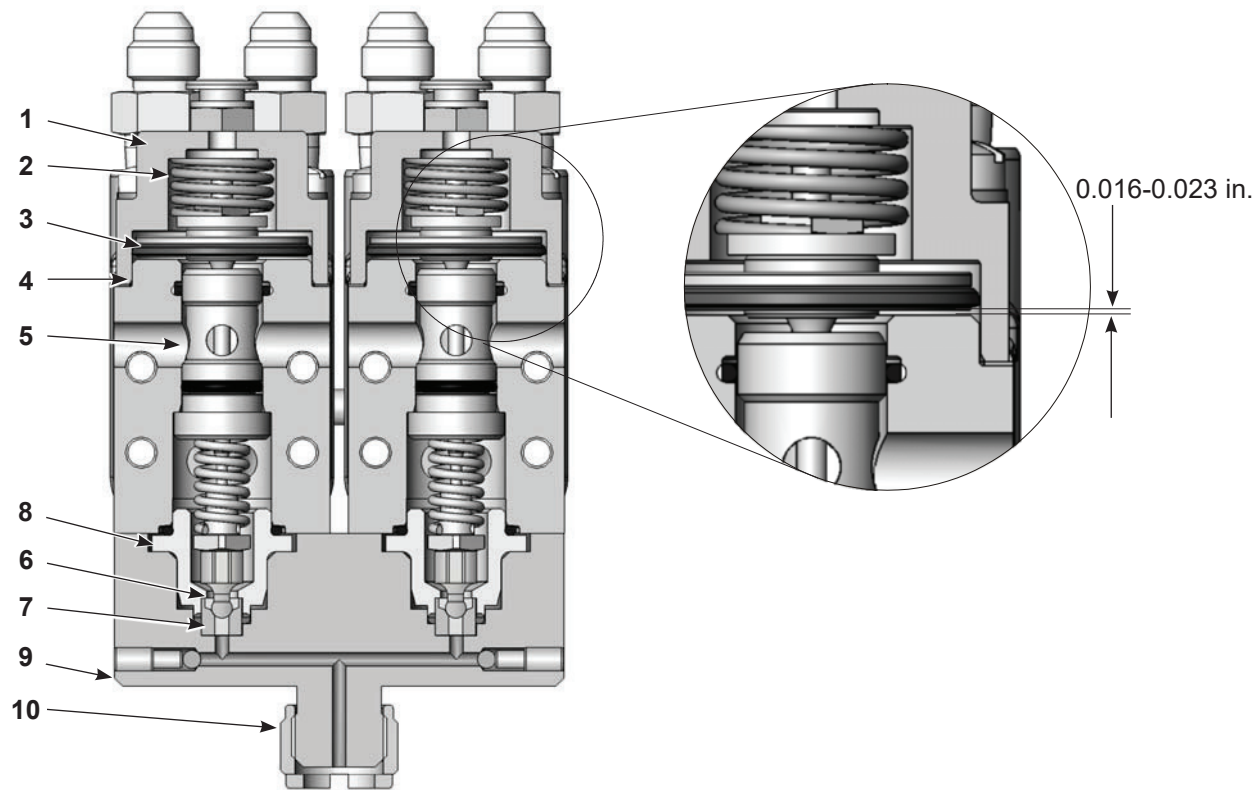

Figure 4 A7A Quattro Modular Spray Guns
2. Install the manifold (20) on the gun body (10) and tighten the screws (19) securely.
- a. If removed, install the O-ring (9) in the internal groove in the body (10).
- b. Apply VC-3 thread-locking compound to the bottom threads of the packing cartridge (11) stem.
- e. Install the O-ring (15), seat (12B), and seat retainer (14) in the manifold (16).
- f. Install the O-ring (13) on the seat retainer.
- h. Thread the piston assembly (8) onto the packing cartridge stem until it rests against the gun body.
- i. See Figure 4. Thread the lock nut (7) part way down the stem. Turn the piston assembly counterclockwise 1/2 to 3/4 turn, until it is 0.016- 0.023 inches from the gun body. Thread the lock nut down against the piston assembly.
- k. Install the compression spring (6) on top of the piston.
- l. Install the gasket (5) and air cylinder (4). Install the screws (2) and lockwashers (3) and tighten the screws securely.
4. When all gun modules have been rebuilt, install the nozzle in the nozzle nut (21), then thread the nozzle nut onto the manifold and tighten it securely.